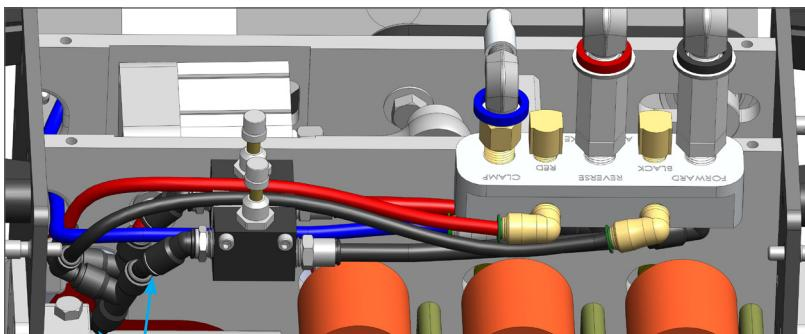

FIGURE 3
2. Unplug the three tubes from the bottom of the manifold (**FIGURE 2**) and remove the 2 hex head bolts using a 7/16 socket driver or box wrench. Remove and retain the top 3 JIC fitting assemblies, and disconnect the 3 air tubes from the bottom of the Air Manifold. Discard the old manifold. (**FIGURE 3**)
2. Connect the red and black tubes with the T-fittings from the manifold to the fittings on the left side of the flow controls. Connect the other end of the T-fittings to the end of the cut tubing. The tubes from the manifold assembly should lie between the flow control knobs. (**FIGURE 3**)